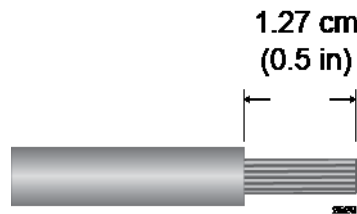

Figure 58. Stripping the Stranded Grounding Wire
1. Prepare an adequate length of stranded 10 AWG grounding wire by stripping it as shown in Figure 58.